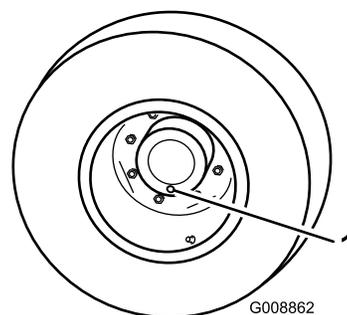

Figure 42
1. With the machine on a level surface, position the wheel so that the check/drain plug (Figure 42) is at the 6 o'clock position.